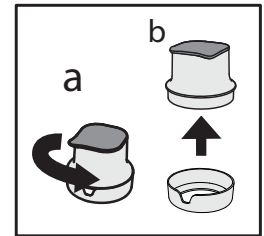

Fig 5
- Remove the funnel from the filter housing rotating it anticlockwise (Fig 5. a) b).